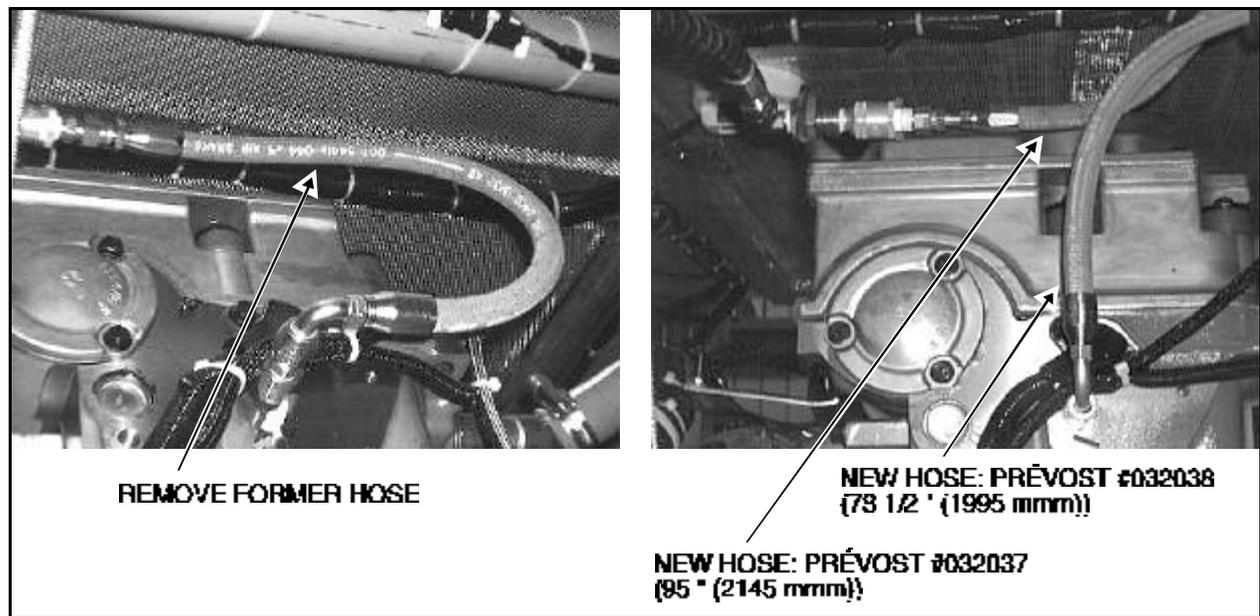

FIGURE 7: FUEL COOLER HOSES ON ENGINE
- On engine, over flywheel housing, locate fuel return hose (Fig. 7) and disconnect it.
- Using a *Loctite 567™* type thread sealant, install hoses (Prévost #032037 and #032038) on engine (Fig. 7).